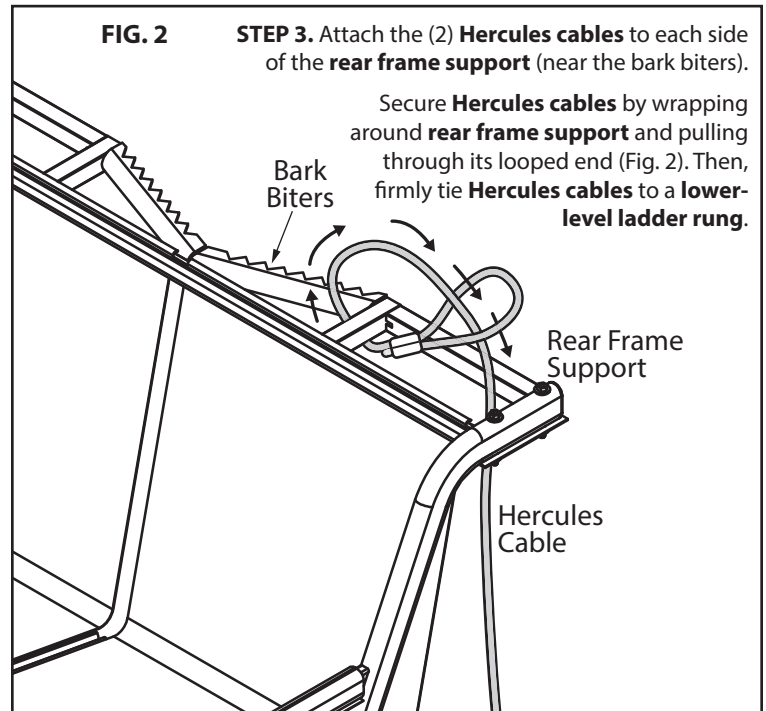

FIG. 3
STEP 4. Place the ladderstand flat on the ground in front of the tree with the bottom ladder section approximately two (2) feet away from the base of the trunk. Then with at least three (3) adults, gently raise the ladderstand to a vertical position allowing the bark biters to come into direct contact with the tree. Once elevated completely, carefully pull the base away from the tree until the seating & standing platforms are parallel to the ground (Fig. 3). You must have two (2) other adults hold each side of the ladder portion of the ladderstand while anyone is climbing to secure the platform.